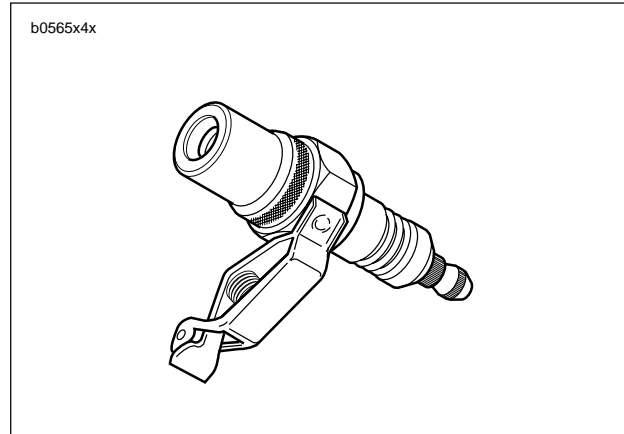

Figure 4-28. Spark Tester (Part No. HD-26792)
1. See Figure 4-28. A SPARK TESTER (Part No. HD-26792) must be used to verify adequate secondary voltage (25,000 volts) at the spark plug.